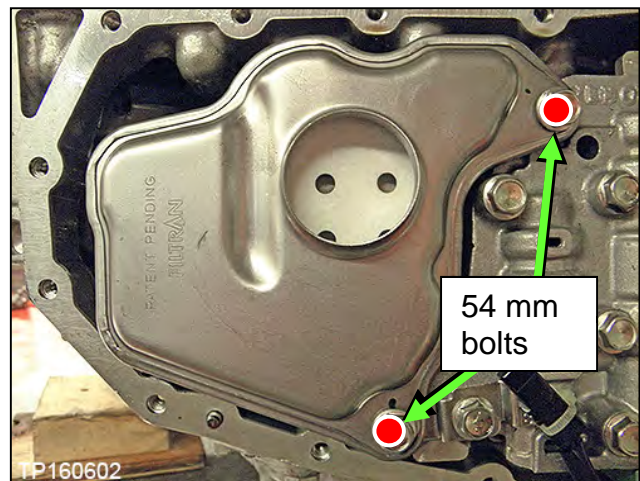

Figure 148
119. Install the new oil strainer with its new O-ring seal with two (2) bolts (Figure 148).